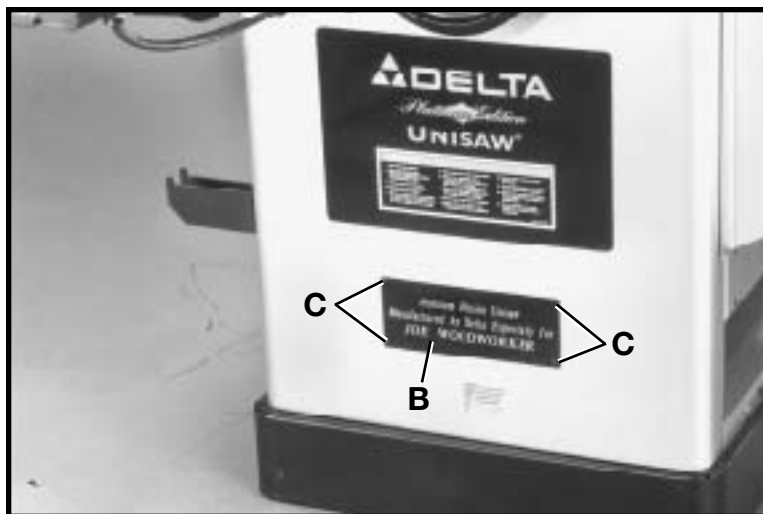

Fig. 91
2. Attach nameplate (B) Fig. 91, to the front of the cabinet using four #6 self-tapping screws (C) supplied.